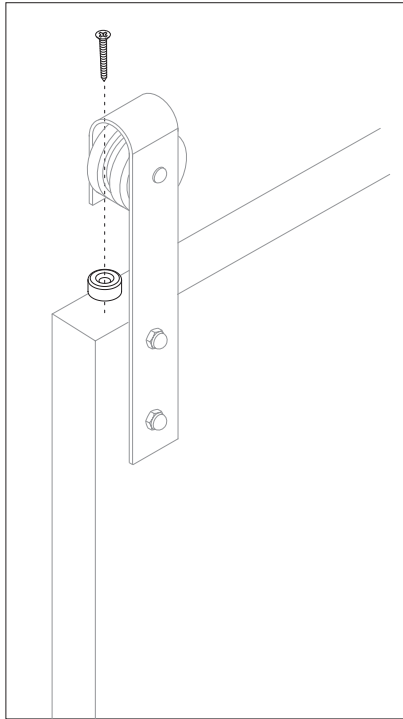

Figure 6
13. Install the block to the top of the door with phillips screw (provided) using a drill with a phillips bit (Figure 6).